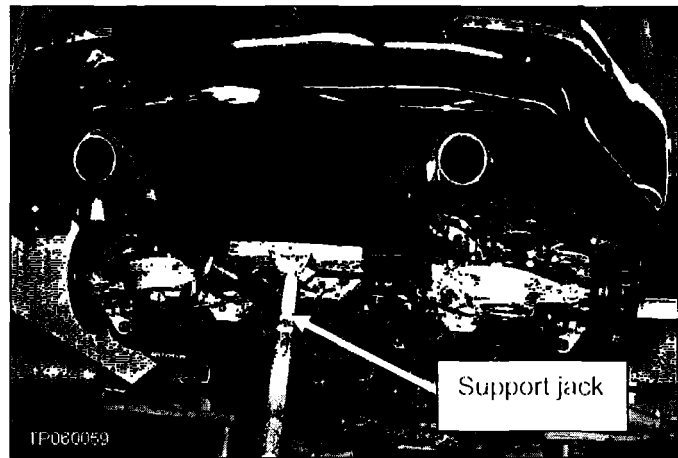

Figure 12
15. Support the rear muffler (see Figure 12).